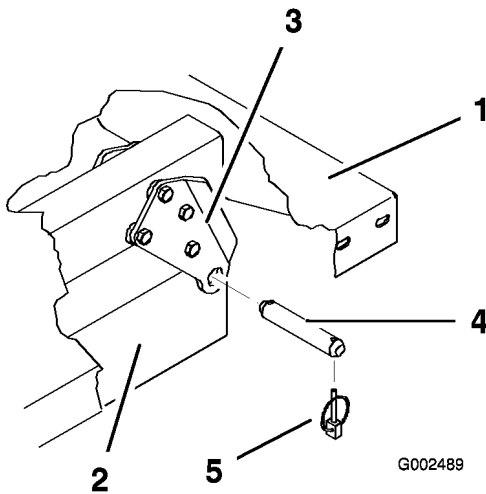

Figure 4
- Remove the lynch pins and clevis pins securing the pivot brackets to the frame channels (Figure 4)